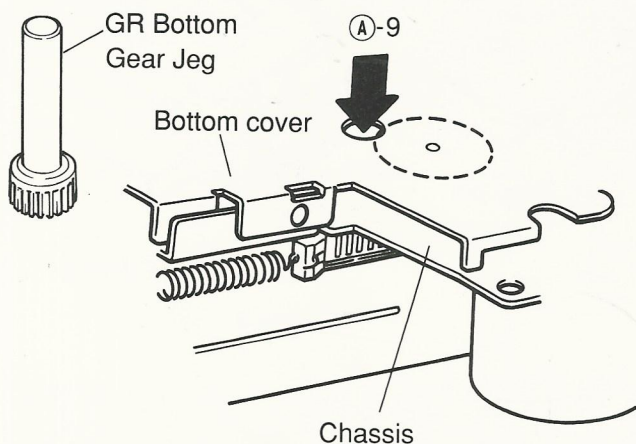

Figure 4
- (12) Since the hooks marked ①-A-8 will be lifted slightly as shown in Figure 4, insert the jig through the hole ①-A-9, and fix it turning the jig slightly in the direction ①-A-11.
(Refer to Figures 4 and 5.)
(14) Insert the jig into the hole (A-9) as shown in Figure and rotate the eject solenoid counterclockwise about 20 times, pulling it in the direction (A-10) with the finger. Then the eject operation is completed. Instead of operation (14), the eject operation can be performed by mounting the mechanism to the product. (Refer to Figures 4 and 5.)